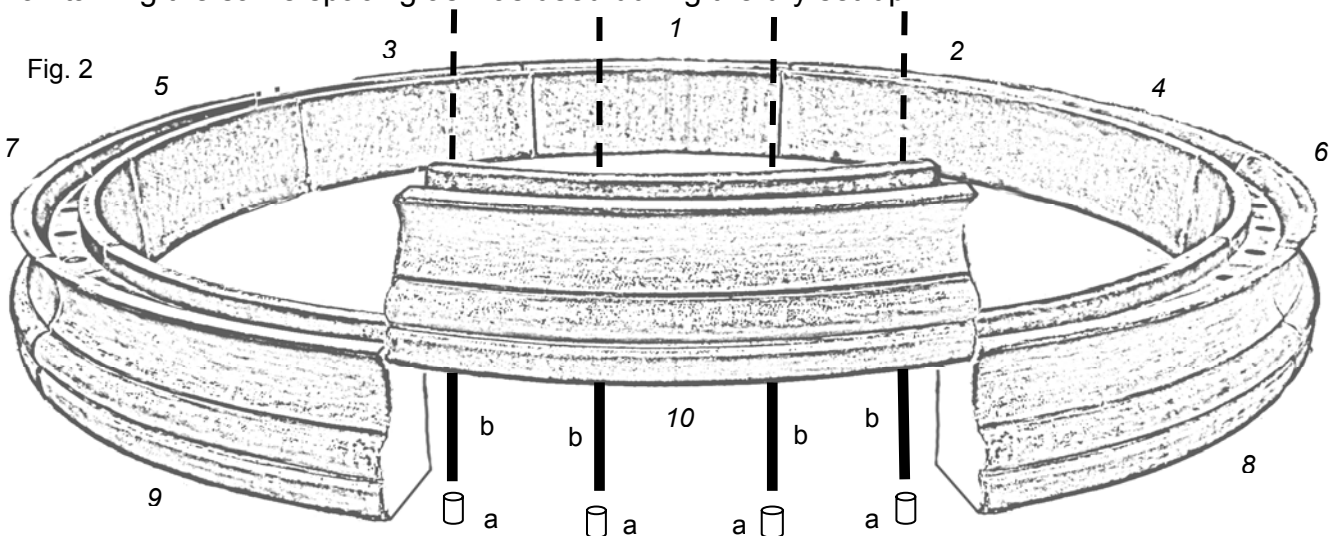

Fig. 2
Place and space each of the Bracci Basin components 3249 (-L) and 3249-T(L). Note that when placing the bases, the caps 3249-T(L) are placed with an off center overlap. Remove caps 3249-T(L) and mark the location of the holes cast in each base component (4 x10) to anchor the basin to the the concrete foundation (see Fig. 2). Remove all base components and drill ¾" holes (a) approximately 2" deep at all previously marked spots. Remove dust and debris, apply epoxy to the four holes (a), and lay mortar inside the footprint of the first base component. Set first base component and place rebar in the holes filled with epoxy. Each base component requires 4 pieces of ½" rebar (b) approximately 12" long (not included). Using the exact same spacing during the dry set-up, place each component moving left to right (see number sequence in figure 2). This to ensure mortar remains fresh during the placement of each section. Tape and fill seams between each section and fill all four holes with mortar to secure rebar pieces.